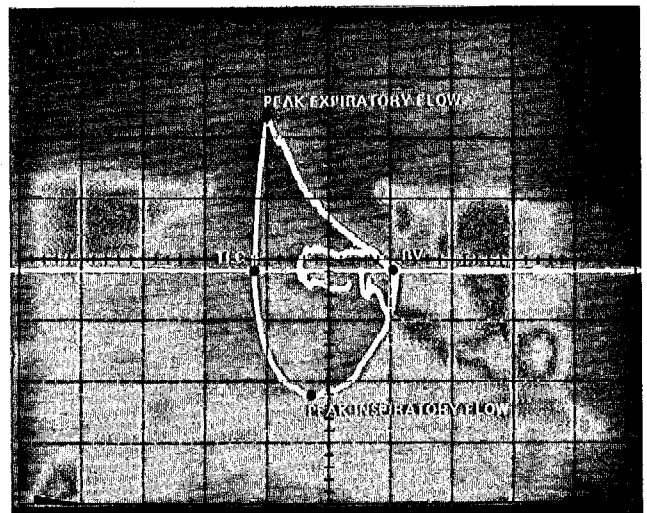

Figure 41 - Trace - Flow-Volume Loop
E.2. Push the **1X GAIN** switches on the X and Y axes of the oscilloscope interface. For most patients, this gain setting is adequate. Patients with diminished flow rates may necessitate a different setting (**2X** or **5X**) to maintain an adequate deflection. The trace may be positioned as shown in Figure 41, although some experimentation may be necessary to prevent the trace from going off the screen at peak inspiratory and expiratory flow.
E.10. Have the patient expire slowly to RV, then have him inspire quickly to TLC. The patient then expires as hard and quickly as possible all the way back to RV. This completes the loop as shown in Figure 41 and the patient may be removed from the mouthpiece. During the test, the operator must encourage the patient to obtain a maximum effort.